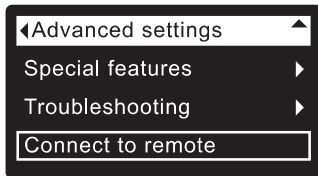
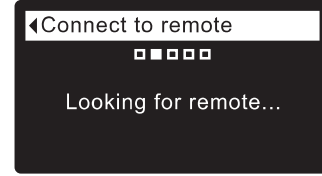
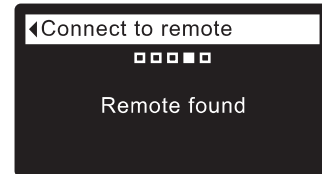
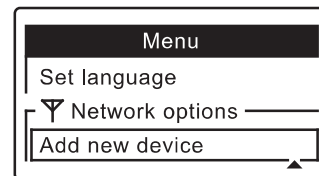

FIG. 41
FIG. 42
FIG. 43
FIG. 46
4. Press the conditioner/refiner’s SELECT (O) button to display the Advanced settings menu (See Figure 41).
7. Press the remote’s DOWN (▼) button to scroll through the menu options until **Add new device** is highlighted in a box (See Figure 46).
9. Make sure the conditioner/refiner’s display still shows the screen in Figure 41. Press the conditioner/refiner’s SELECT (O) button to display the “Looking for remote” screen (See Figure 42).
10. Within a few seconds the screen should change to show “Remote found” (See Figure 43). If, after about one minute, the conditioner/refiner’s screen instead reads “New remote not found,” press the conditioner/refiner’s SELECT (O) button to return to the screen in Figure 41 and press the remote’s LEFT (◀) button to return to the screen in Figure 46. Then repeat this procedure from Step 8. If the remote is not found after several tries, contact your dealer for service. Take note of the message on the remote’s screen after an unsuccessful attempt, as it indicates the nature of the problem.
11. Press the conditioner/refiner’s SELECT (O) button. The display will go back to the Advanced settings menu (Figure 41).
2. Press the DOWN (▼) button to scroll through the menu options until **Add new device** is highlighted in a box (See Figure 46).
4. When the remote detects a signal from the device, the display will change to show that it has been added to the remote (See Figure 48). If another message appears instead, indicating the device was not added successfully, press the LEFT (◀) button to return to the screen in Figure 46. Repeat Step 3. If this does not work, contact your dealer for service.